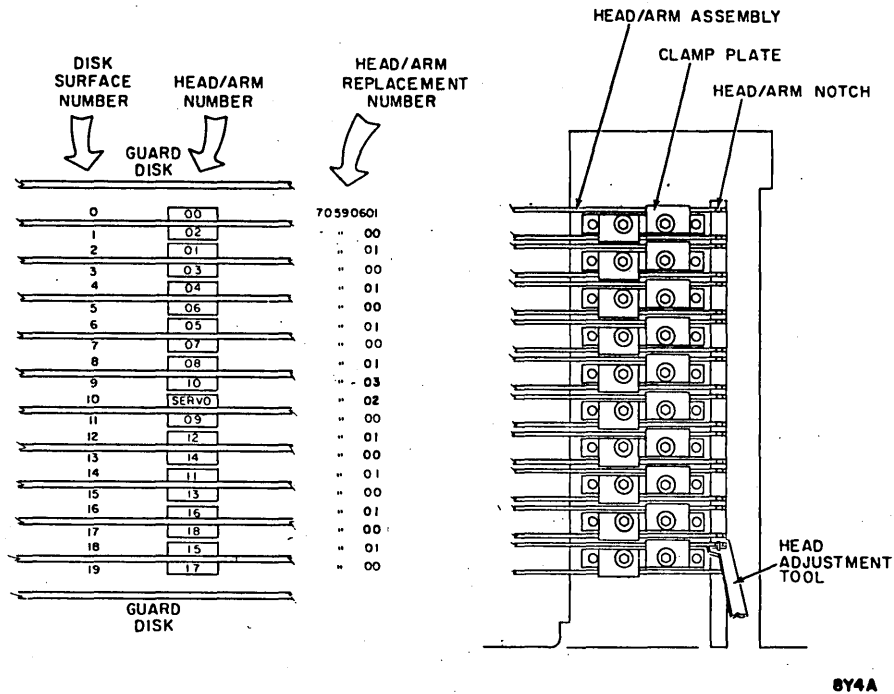
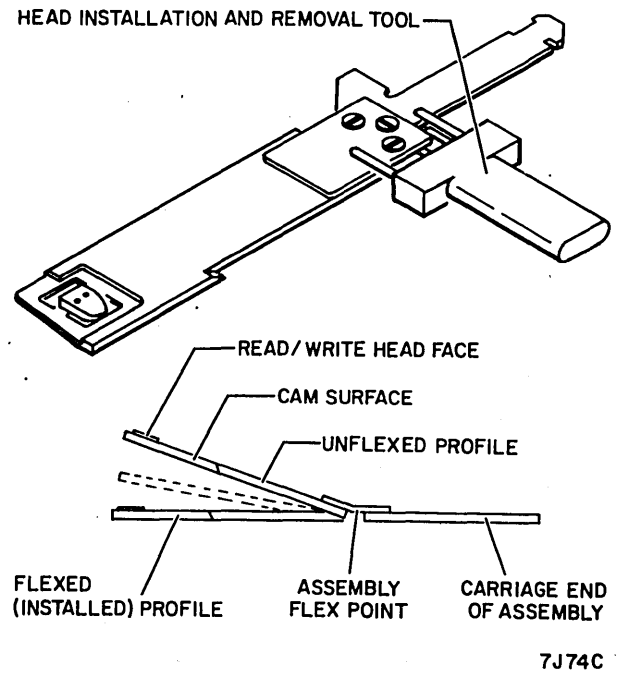

Figure 3-29. Head/Arm Assembly Identification
Figure 3-30. Head/Arm Installation and Removal
6. Refer to Figure 3-29 and determine location of faulty head/arm assembly.
7. Carefully remove head cable for faulty head from head cable clamp (Figure 3-29) and disconnect related head cable plug at card E00.
8. Refer to Figure 3-30 and slide head installation and removal tool on outer edge of faulty head/arm assembly.
9. Remove clamp plate securing faulty head/arm assembly to carriage (Figure 3-29).
10. Grasp carriage end of head/arm assembly (Figure 3-30) between thumb and forefinger.
13. Carefully flex replacement head/arm (see Figure 3-29 for head/arm assembly part numbers) until straight and slip head installation tool on head/arm as shown in Figure 3-30.
18. Install head cable in cable clamp (Figure 3-29). Make sure cable is oriented similarly to adjacent cables.